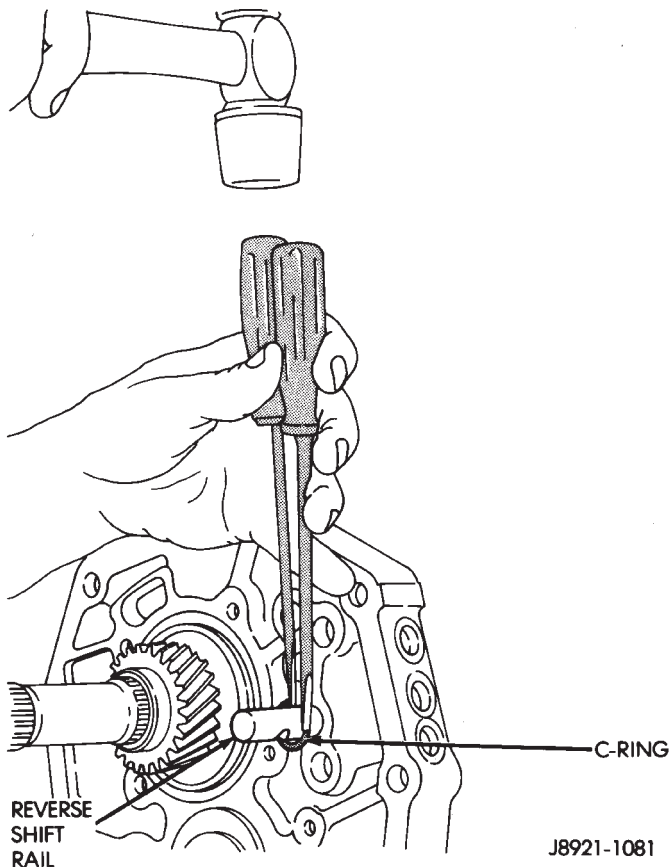

Fig. 51 Removing Reverse Shift Rail C-Ring
(12) Remove reverse shift rail C-ring with two equal length and size screwdrivers (Fig. 51).